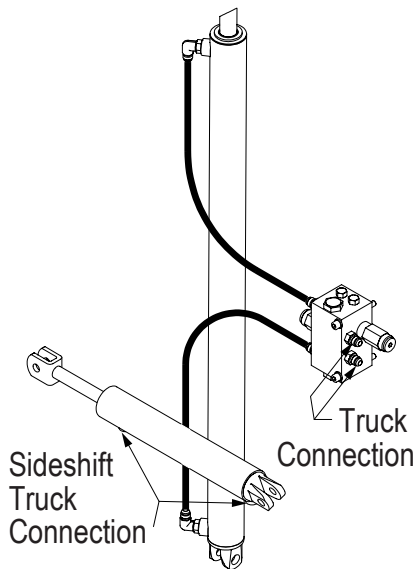

Figure 5-10, Hydraulic Connection, Sidsifter Connection Shown
2. Disconnect the hydraulic hoses from the truck at the attachment's valve. (Figure 5-10)